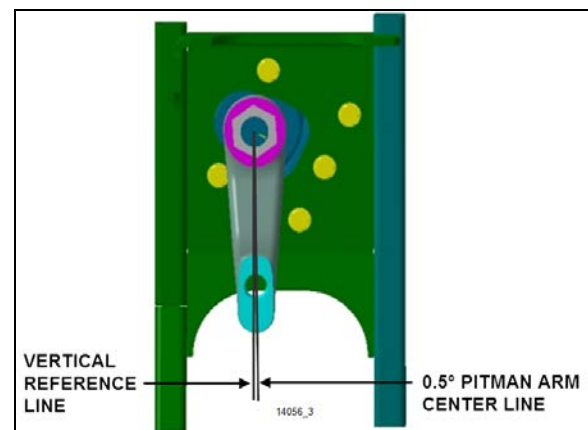

FIGURE 35: IFS PITMAN ARM ALIGNMENT
Shim the lower A-arm to adjust camber (Figure 35). If the kingpin inclination is incorrect, the wheel kingpin assembly may be bent and therefore should be replaced.
4. Check that the angular relationship of the pitman arm to the steering gear is as shown in Figure 35.